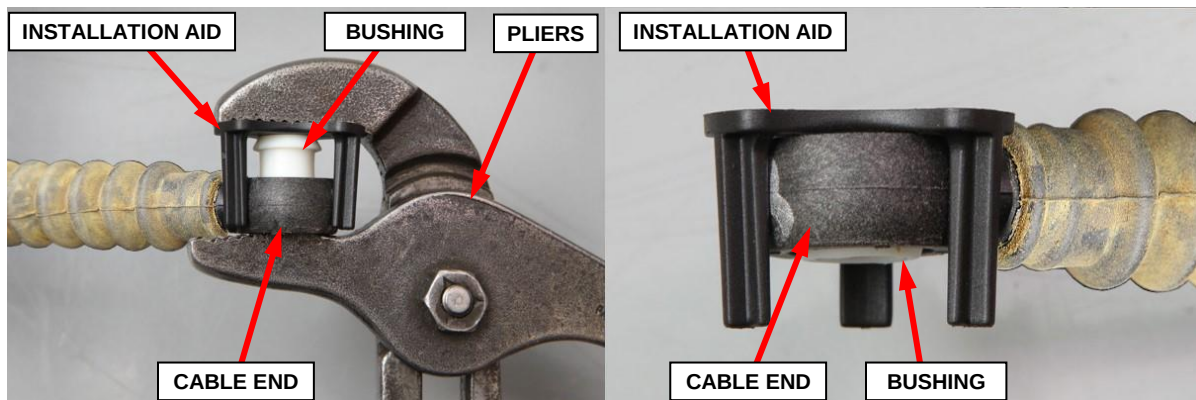

Figure 17 – Squeeze Installation Aid with New Bushing into Cable End
12. Using pliers, squeeze the installation aid with new bushing into the cable end until fully seated (Figure 17).